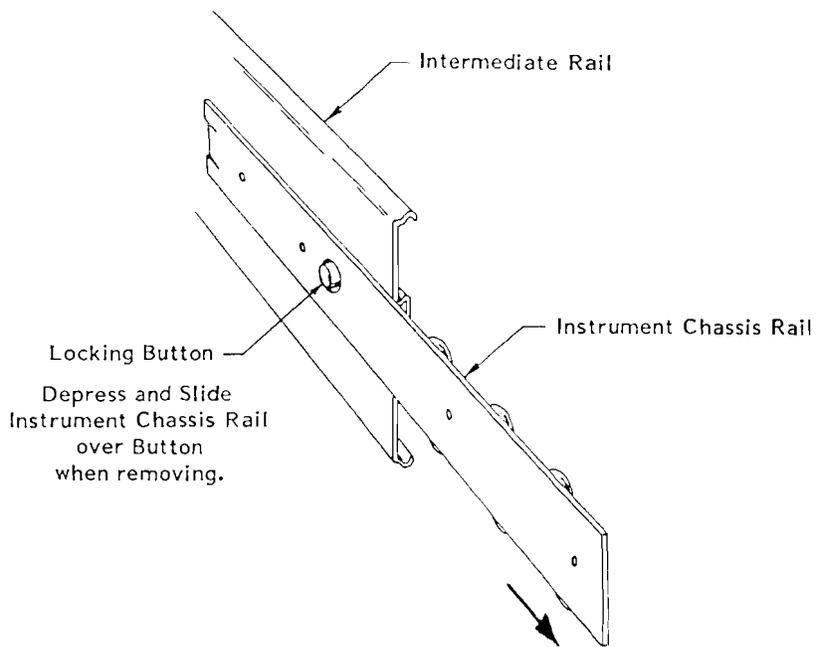

Figure 2-7 Instrument Rail Removal
5. Remove the instrument (mainframe) rail from slide assemblies installed in rack. This is easily done by first extending the instrument rail out until it locks in the open position as shown in **Figure 2-7**. Depress the locking button and hold it in to unlock the rail. Slide the rail over the button and completely out of the slide mount assembly.